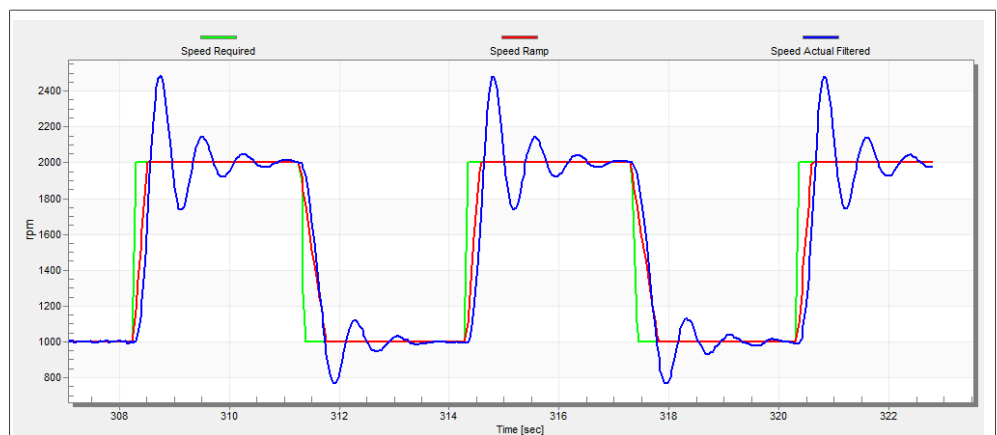

Figure 27. Speed controller response—SL_Kp value is low, Speed Actual Filtered greatly overshoots
- The “SL_Kp” value is low, the “Speed Actual Filtered” greatly overshoots, and the long settling time is unwanted (see Figure 27).
| Fig. 12. | Scalar control mode | 31 | Fig. 27. | Speed controller response—SL_Kp value is low, Speed Actual Filtered greatly overshoots | 48 |